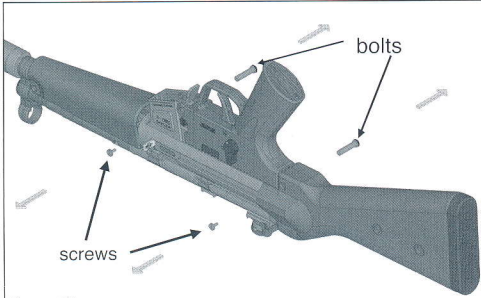

figure 13
2. Turn the gun upside down (figure 13)
3. Remove the screws of the stock and of the frame. (figure 13)